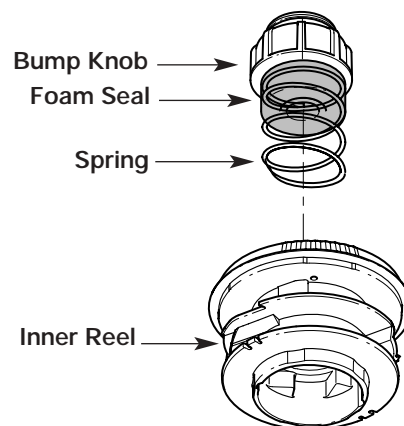

Figure 21
1. Turn the bump knob counterclockwise and remove the bump knob, spring and foam seal. See Figure 21.
7. Place the bump knob, spring and foam seal into the inner reel. See Figure 21.